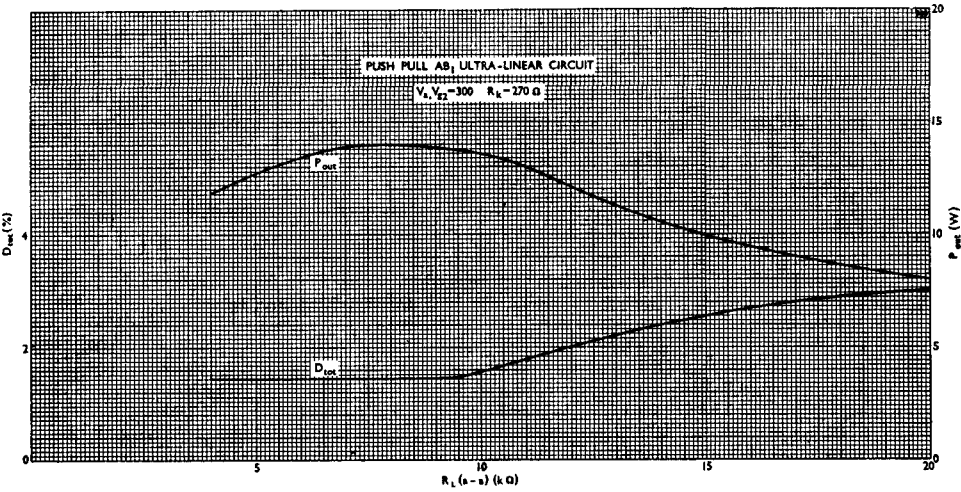

Fig. 2.
**ULTRA LINEAR OPERATION** (See figs. 2 and 3)